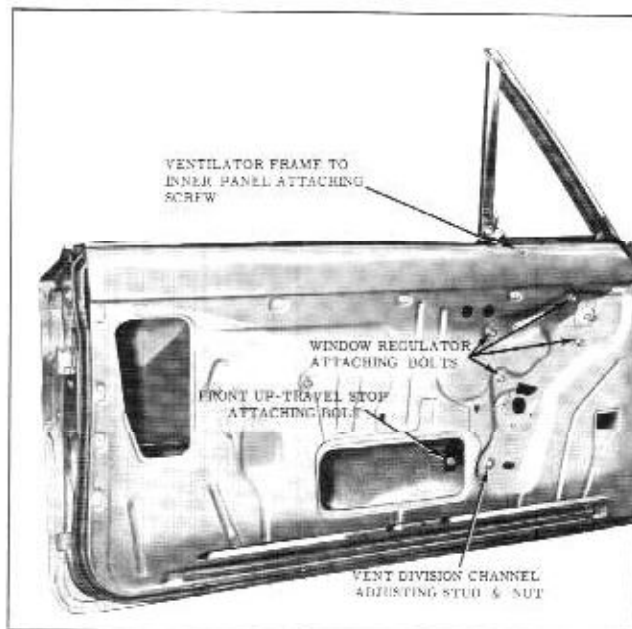

Fig. 15-16 Ventilator Attachment
2. Remove ventilator division channel lower adjusting stud and nut. (Fig. 15-16)
2. Lower window and remove front up-travel stop. (Fig. 15-16)
4. Remove regulator attaching screws and remove regulator from door. (Fig. 15-16)